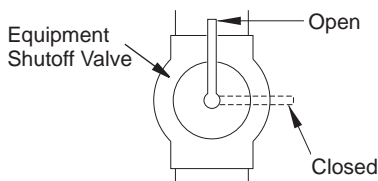

Figure 16 - Equipment Shutoff Valve
1. Close equipment shutoff valve (see Figure 16).
1. Open equipment shutoff valve (see Figure 16, page 13).